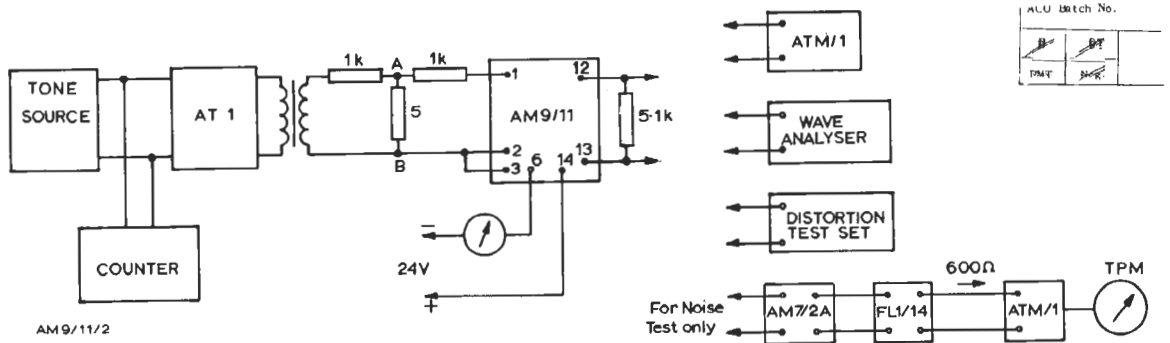

Fig. 2. AM9/11 Test Circuit 1
Set up the test circuit as shown in Fig. 2. Connect to tags on plug PLA for channel 1 and PLB for channel 2. (Note that channel 1 is circuit 2 and channel 2 is circuit 1.) Apply identical tests to each channel. Make all level measurements using the high-impedance input of the ATM/1 except where instructed otherwise.
1. Connect up the output circuit as indicated for 'noise test' in Fig. 2. Set the gain switch to maximum output. Switch the filter FL1/14 to its bandpass position and disconnect AT1 from the repeating coil. Set the T.P.M. to peak to 5 on the meter. The dial setting should be more negative than -44 dB and the meter should be steady within 1 dB.